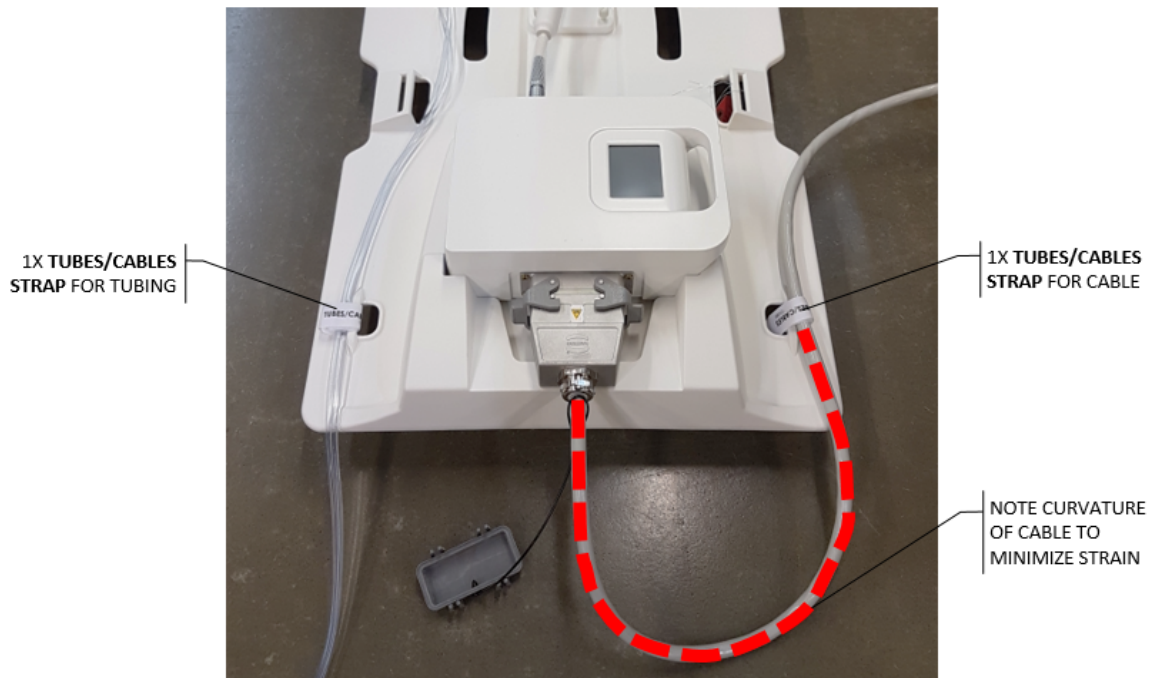

Figure 29: Tube-and-cable straps of base plate: one for tube sets and one for RF cable
4. **MRI Technologist:** Use tube-and-cable straps to manage fluid tubes and the white RF cable as shown in *Figure 29*. Leave some slack to allow the cables to slide freely and to reduce tripping hazards. Ensure no cables, tubing, or other materials can be caught while the MRI table is moving.